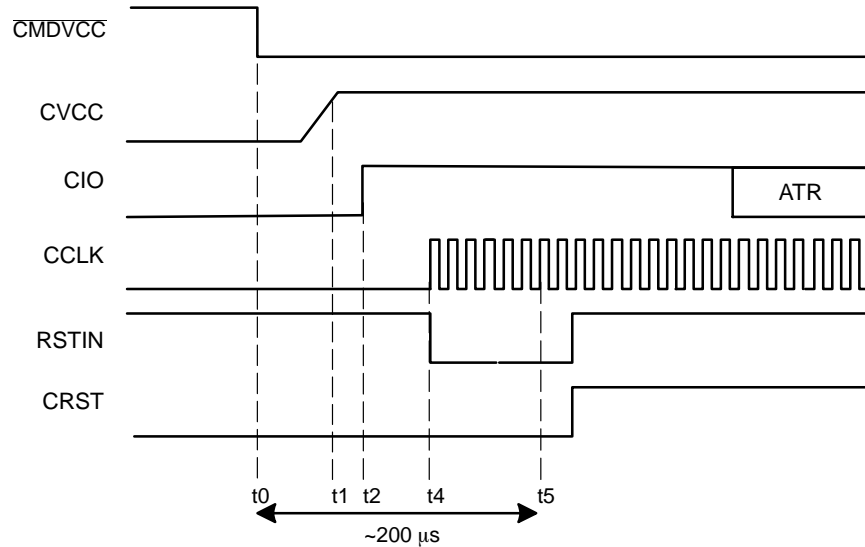

Figure 5. Activation Sequence – RSTIN Mode (RSTIN Starting High)
The clock can also be applied to the card using a **RSTIN mode** allowing controlling the clock starting by setting RSTIN Low (Figure 5). Before running the activation sequence, that is before setting Low  $\overline{\text{CMDVCC}}$  RSTIN is set High. The following sequence is applied:
- Between t2 (Figure 5) and t5 = 200  $\mu\text{s}$ , RSTIN is reset to LOW and CCLK will start precisely at this moment allowing a precise count of clock cycles before toggling CRST Low to High for ATR (Answer To Reset) request.